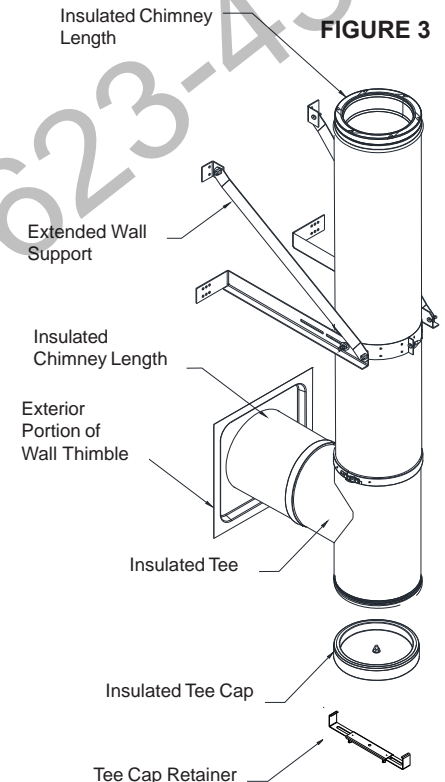

FIGURE 3
8. The Extended Wall Support assembly should be installed on the first vertical chimney length above the Insulated Tee (see Figure 3). Do so by loosening the bolt securing the tabs on the Support Band until the diameter is sufficiently large to accommodate the insulated chimney length within. Tighten the Support Band bolts just enough to hold the Extended Wall Support in place. Place pipe on outlet of tee and secure with locking band.
The assembly should now be oriented as shown in Figure 3.